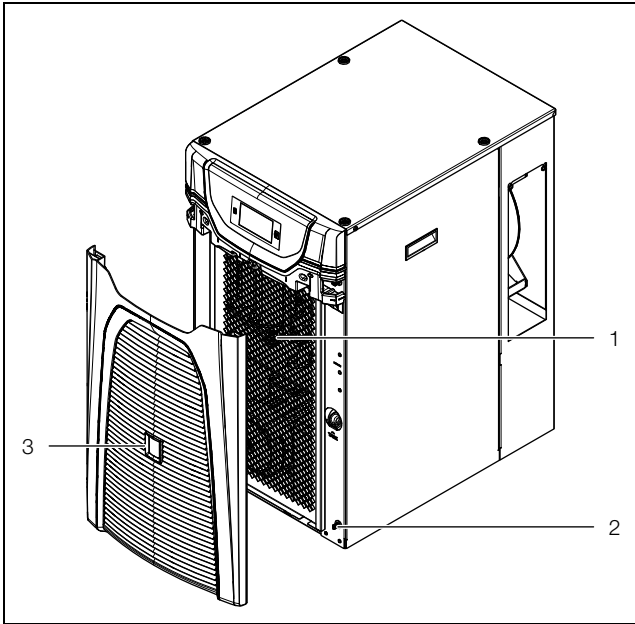

Fig. 34: Pull off the louvred grille 3319100, 3320200 and 3334300
- At the front of the chiller, pull the louvred grille (fig. 34, item 3) away from the mounting clips (fig. 34, item 2), and place or lay it down somewhere safe.